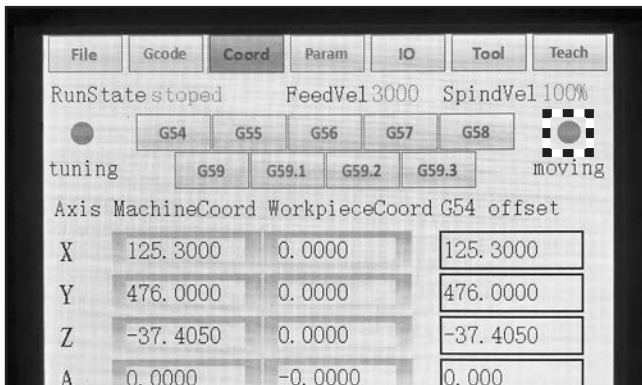

Figure 47. Location of moving button in coordinate screen.
3. Use menu navigation keys to move cursor over red "moving" soft key (see **Figure 47**), then press "Enter" button.